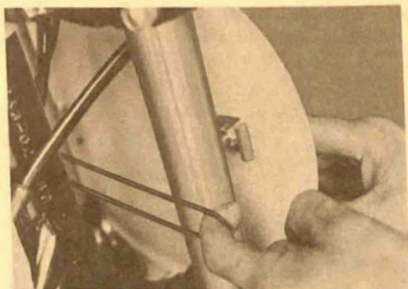

Fig. 32
16. Install the front number plate on the front forks. (Fig. 32) (MX250A, MX360A, SC500A)